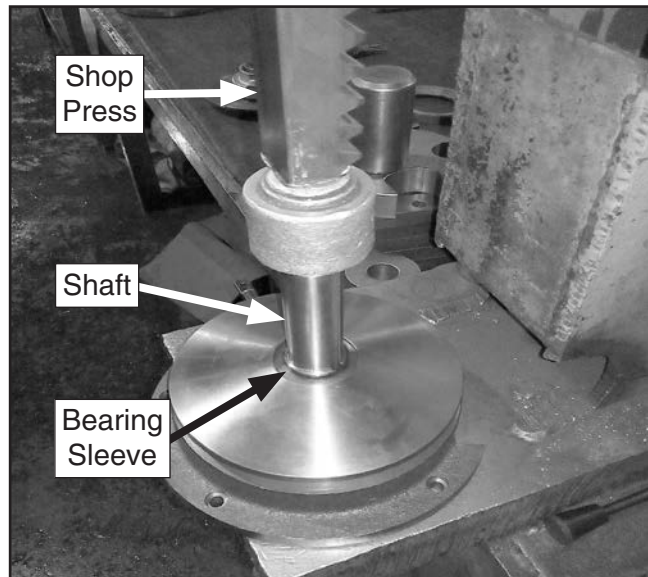

Figure 105. Brake bracket mounted on shop press for removal of shaft, bearing sleeve, and lower pulley.
12. Use a press to remove shaft and bearing sleeve assembly from pulley and brake bracket (see **Figure 105**).